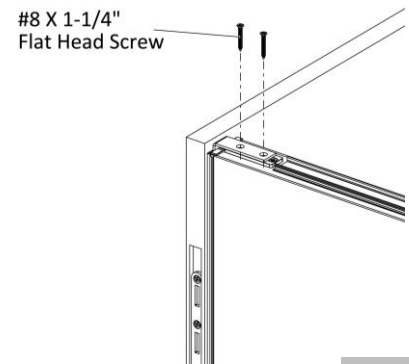

Figure 4
9. Drive two #8 X 1-1/4" Flat Head Screws through the holes in the gallery panel top bracket into the standard panel, (Figure 4).